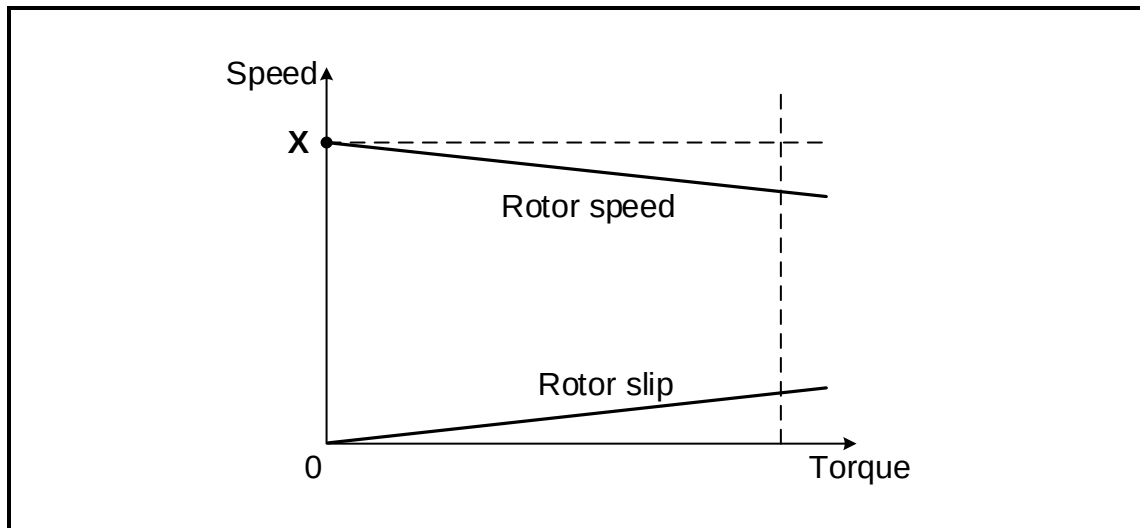

FIGURE 6.2: ROTOR SPEED AND SLIP
6.2 Refer to FIGURE 6.2 below and answer the questions that follow.